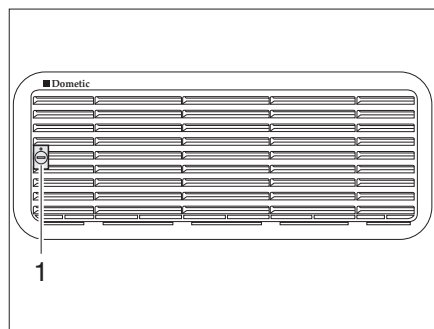
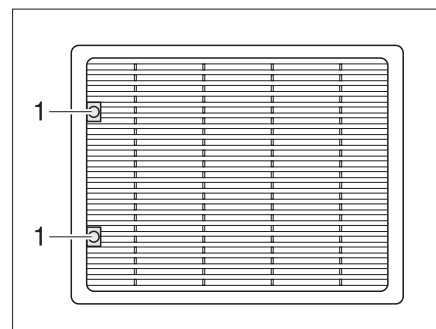

Fig. 318 Refrigerator ventilation grill (Dometic small)
Fig. 319 Refrigerator ventilation grill (Dometic large)
- Turn screw (Fig. 318,1 or Fig. 319,1) one quarter turn using a coin.